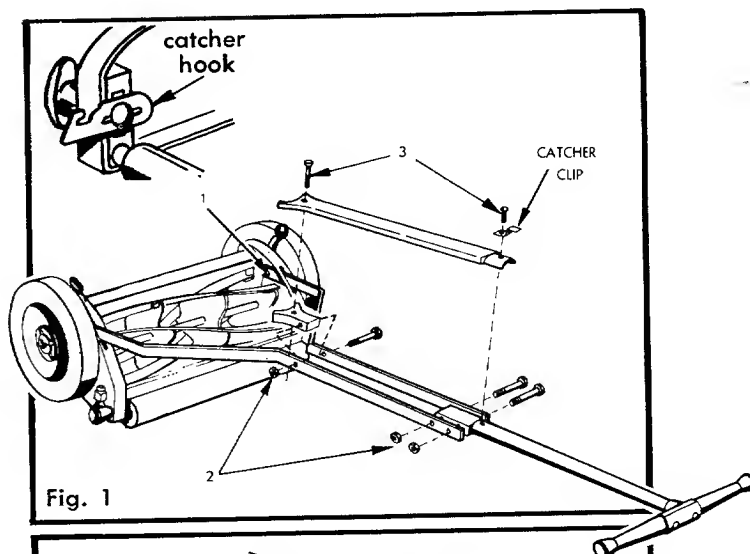

Fig. 1
1. Attach handle brace (1). (Fig. 1)
2. Attach handle brace spacer and handle as shown, tighten nuts (2) securely.
3. Attach cover plate and grass catcher clip with screws (3).
4. If grass catcher is used, attach catcher hooks on inside of frame, under HEAD of roller bracket bolt, as shown in Fig. 1.